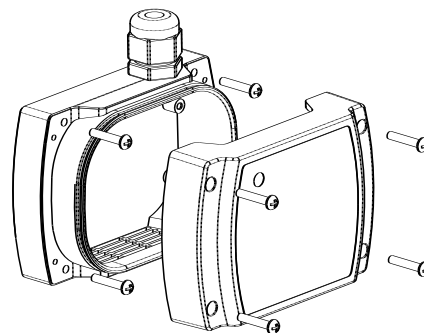

Figure 2
- It should be installed vertically on the wall, with the outlet gland upwards (usually the cable in the parking lot is laid down from the roof), and the sampling holes downwards (because the exhaust gas from automobiles is diffusing from ground to roof), shown as figure 2. Open the front cover and screw the base on the mounting surface with 4 mounting screws.